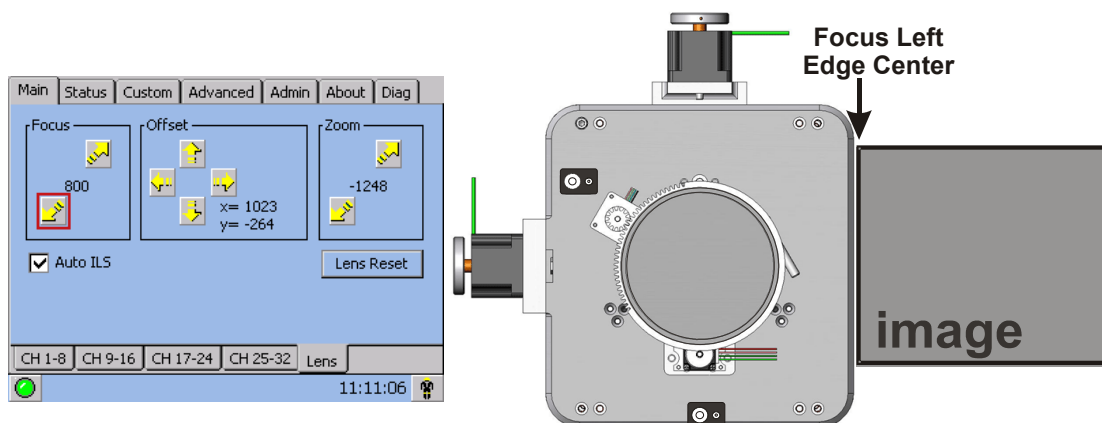

Figure 2-37 Adjust Focus
3. Adjust the **Focus** to retract the lens using the down arrow on the **Main: Lens** menu. See **Figure 2-37**. Watch the image at the left edge of the screen until it comes into focus. If the image appears well-focused on the left edge but not on the right, determine if the right side focuses in front of or behind the screen. If the entire screen come into focus, skip to step 7.
7. Adjust the **Horizontal Hold Screw** to lock adjustments in place. Check boresight again. See **Figure 2-37**.